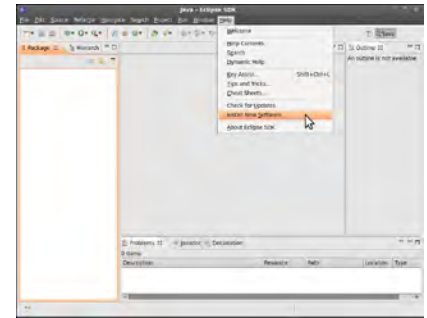

Figure 6-6. Installing new software via the Help menu
Now you can see the Eclipse main screen (Figure 6-6). This is the IDE you will use to develop Android applications.
1. Choose Help→Install New Software, as shown in Figure 6-6.